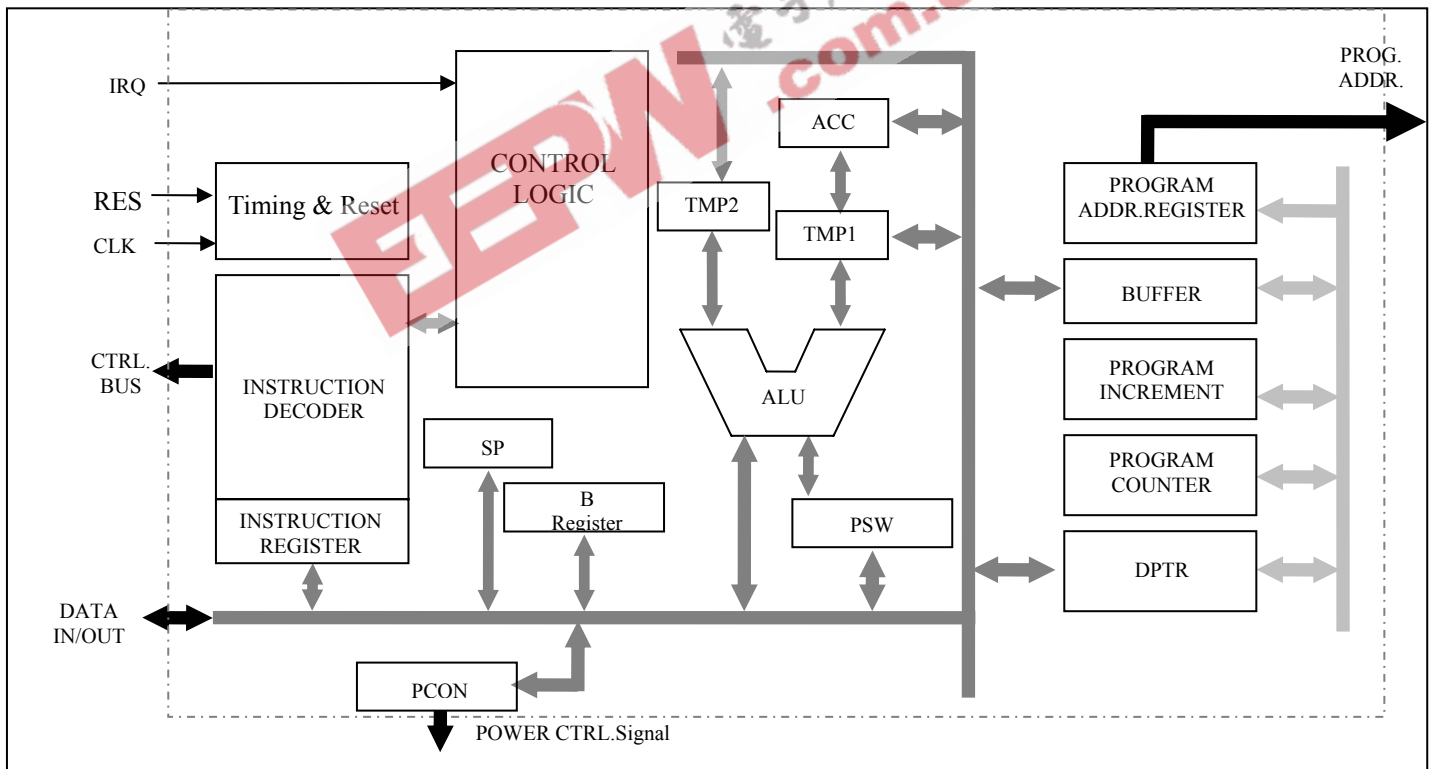

Figure 11 The CPU structure
The CPU of SM89S16R1 is compatible to standard 80C51. The structure of this CPU is shown as FIGURE 11. It contains Instruction Register (IR), Instruction Decoder, and Program Counter (PC), Accumulator (ACC), B Register, and control logic. This CPU provides a 8-bits bi-direction bus to communicate with other blocks in the chip. The address and data are transferred through on the same 8-bits bus.